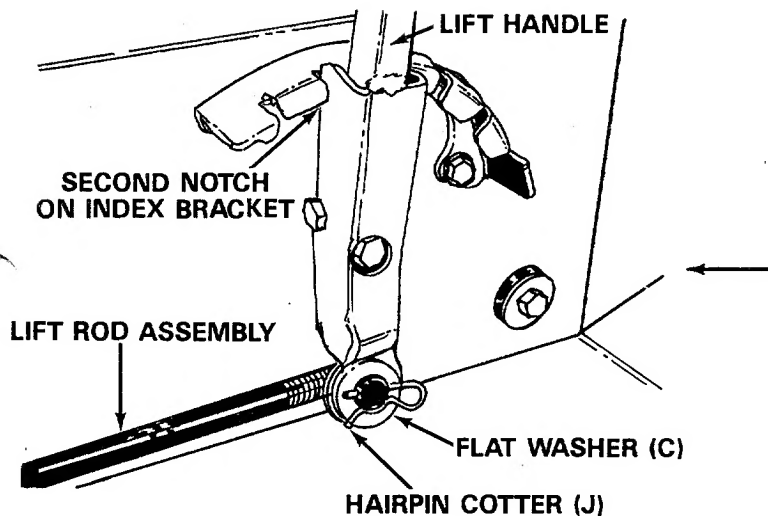

FIGURE 12
24. Move the lift lever on the tractor to the second notch on the index bracket as shown in figure 12.
25. Place a board under the tines. Thread the assembly until it lines up with the bottom hole in the lift handle. Secure ferrule to lift handle using flat washer (C) and hairpin cotter (J). See figure 12.